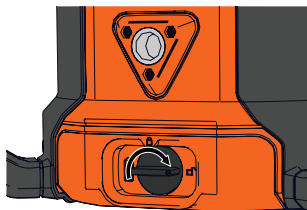

Figure 11
1. Push in and turn the battery lock knob clockwise to the “Unlock”  position. (Figure 11)